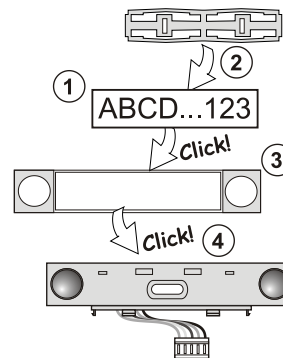

Figure 3: Insertion of a label into a control segment
- c. Press the backlit activation button (3) the module is thus enrolled and the yellow LED indicator goes off.
10. When you have completed the installation, insert descriptive labels onto the segment transparent covers and close them, see figure 3. Label printing is a part of the **F-Link** software (**Devices** window, at the module position – **Internal settings**).